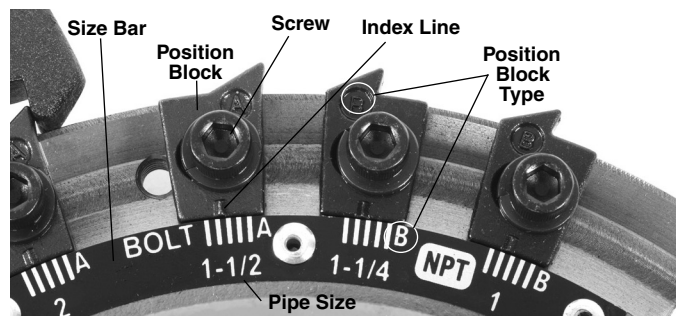

Figure 3 – Adjusting Thread Size
6. Always make sure position block type matches (Figure 3).